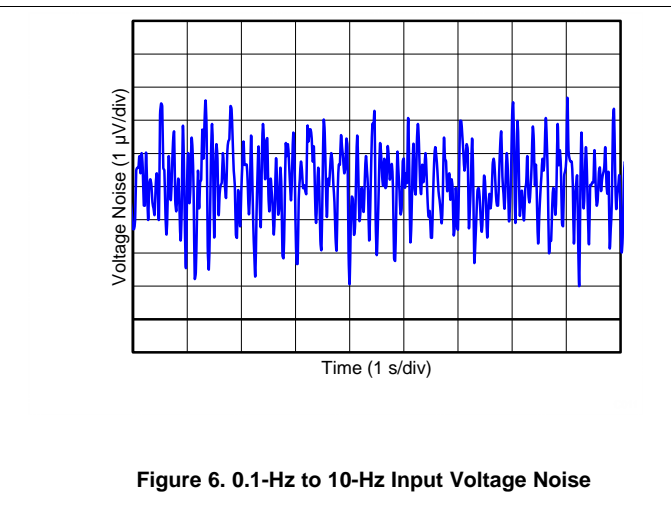

Figure 6. 0.1-Hz to 10-Hz Input Voltage Noise
0.1-Hz to 10-Hz Input Voltage Noise (5.5 V)	<a href="#">Figure 6</a>